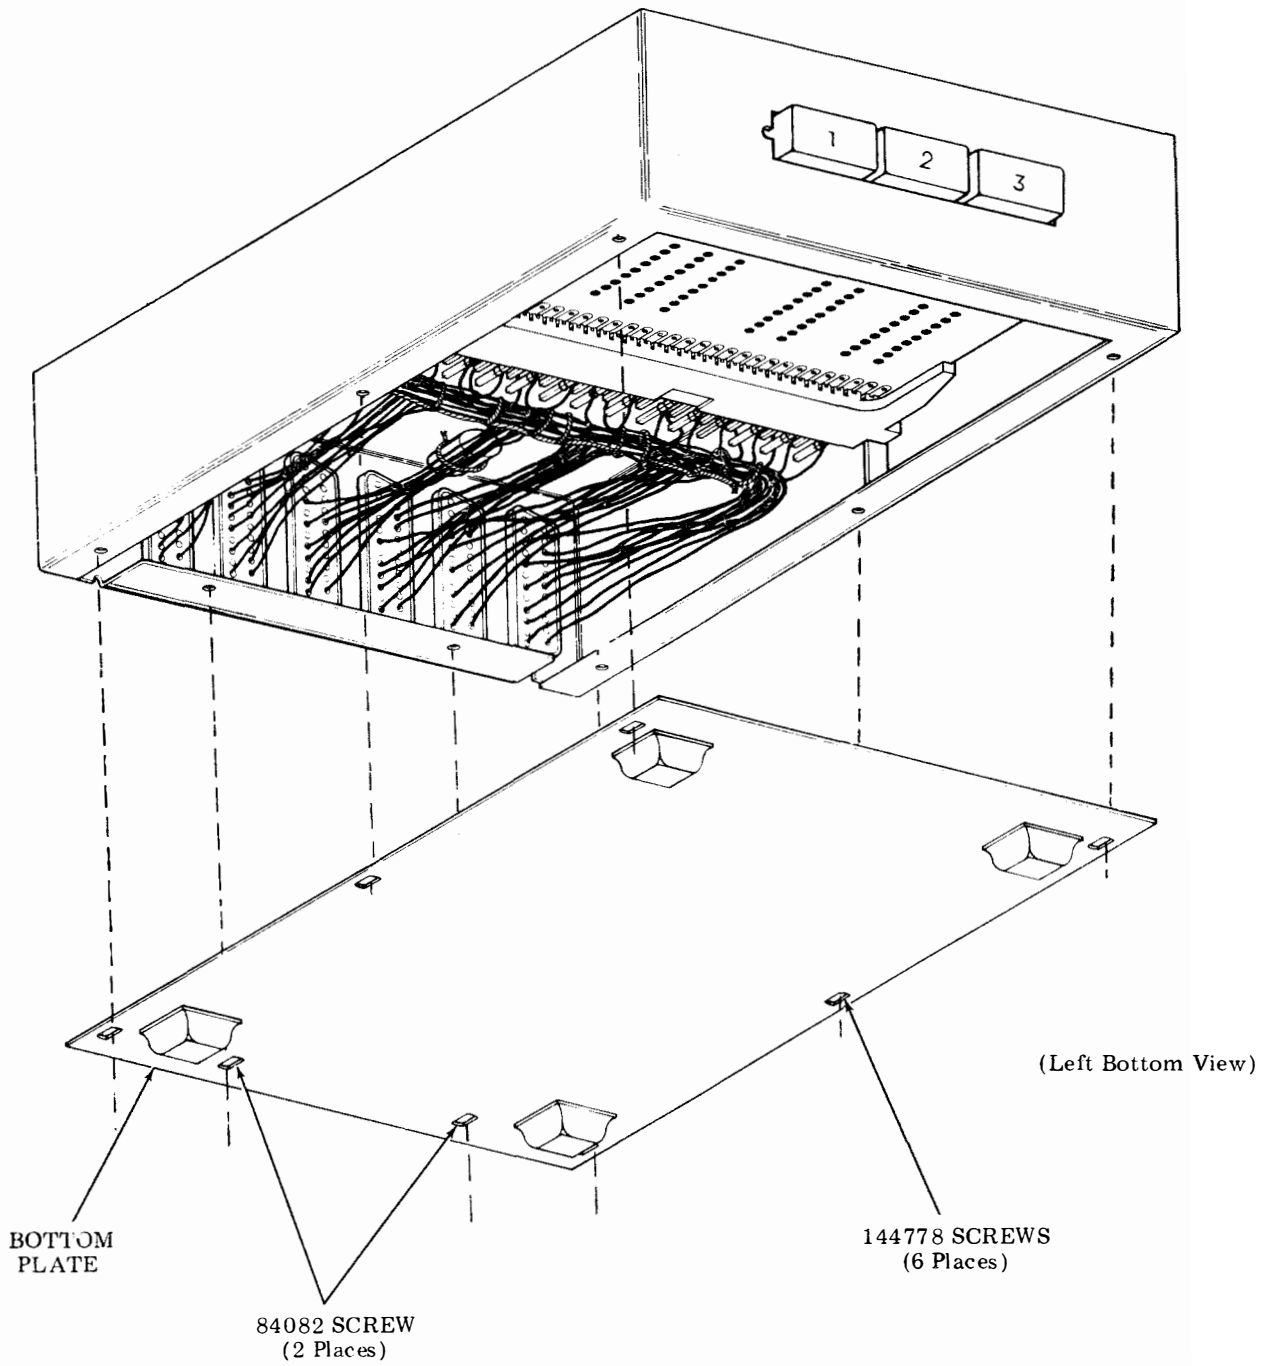

Figure 10 - Switch Assembly With Bottom Plate
2.05 The switches and circuit cards plug into the circuit card connectors and the complete assembly slides into the box (Figure 10). The bottom plate (with four rubber feet) is then placed on the box and attached with six sheet metal screws and two tapped-in screws to secure the "U" bracket in place, as shown in Figure 10.